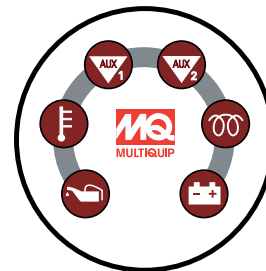

Figure 12. Indicator Lights
4. Turn the ignition key clockwise to the **ON** position. Aux 1, Aux 2, Coolant Temp, Cruise, Pitch Mode Lights will light for 10 seconds (Figure 12) and Charge Lamp will remain lit until engine starts. Coolant fan will run for 10 seconds.